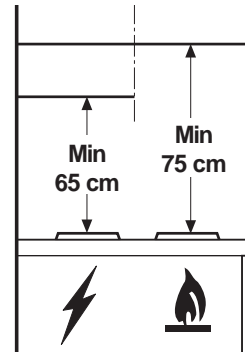

Fig. 3
- When installed, the hood must be not less than 65 cm. above electric burners or 75 cm. above gas or mixed-fuel burners. (Fig. 3).
When installed, the hood must be not less than 65 cm. above electric burners or 75 cm. above gas or mixed-fuel burners. (Fig. 3).